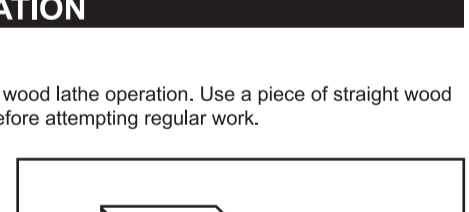

Fig. 5
- Draw diagonal lines on each end to locate center. (Fig. 5)